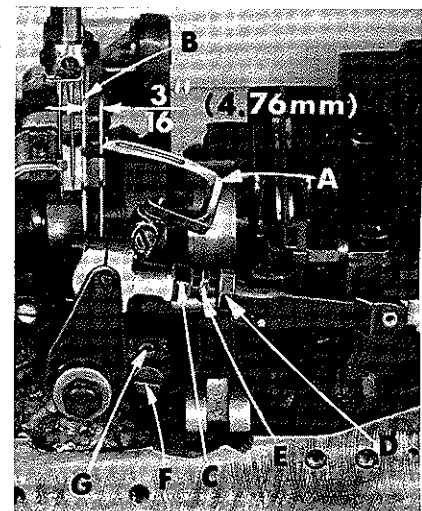

Fig. 8
Insert a new needle in the right needle seat, type and size as specified. If the looper gauge is $\frac{3}{16}$ inch (4.76 mm), for example, set the looper (A, Fig. 8) so the distance from the center of the right needle (B) to the point of the looper is $\frac{3}{16}$ inch (4.76 mm) when the looper is at its farthest position to the right. Looper gauge No. 21225- $\frac{3}{16}$ can be used advantageously in making this adjustment. Refer to chart for looper gauge setting and looper gauge number applicable to machine Style. If adjustment is required, loosen nut (C) (it has a left hand thread) and nut (D) on connecting rod (E), turn the connecting rod forward or backward to obtain specified dimension. Retighten both nuts, first nut (D) and then nut (C). Make sure the left ball joint is in vertical position and does not bind after adjustment.
The looper is set correctly in line-of-feed, if, as it moves to the left, behind the needle, its point brushes, but does not pick at the rear of the needle. If adjustment is necessary, loosen lock screw (F, Fig. 8) and turn stop screw (G) as required. Turning stop screw clockwise sets the looper to the rear and turning it counterclockwise acts the reverse. Holding looper to the front while making this adjustment may prove helpful. Tighten lock screw when setting is obtained and recheck the adjustment.